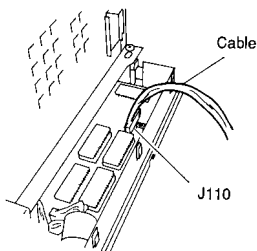

Figure 3-723
- 4) Securely connect the jack on the cable from the switch board to connector J110 on the image processor PCB. (Figure 3-723)